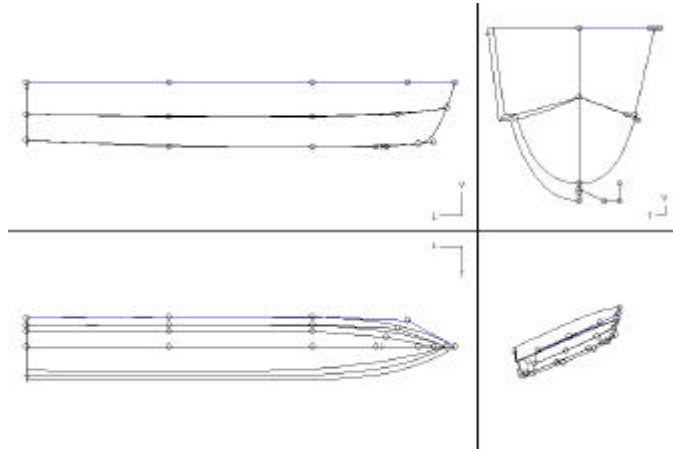

Figure 3-5: Mirrored inboard half of the hull
7. Edit the shape as you see fit. Take care to not move any of the vertices at the centreline, otherwise the two halves of the hull will not match. (See Figure 3-5.)